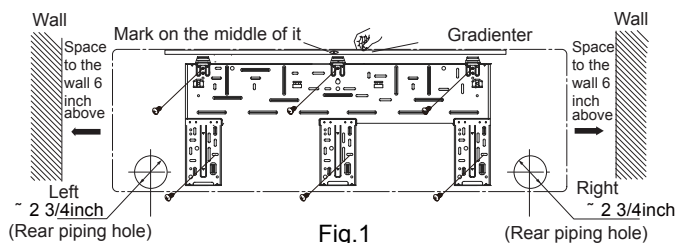

Fig. 1
(1) Choose the position of piping hole according to the direction of outlet pipe. The position of piping hole should be a little lower than the wall-mounted frame. (As show in Fig.1)